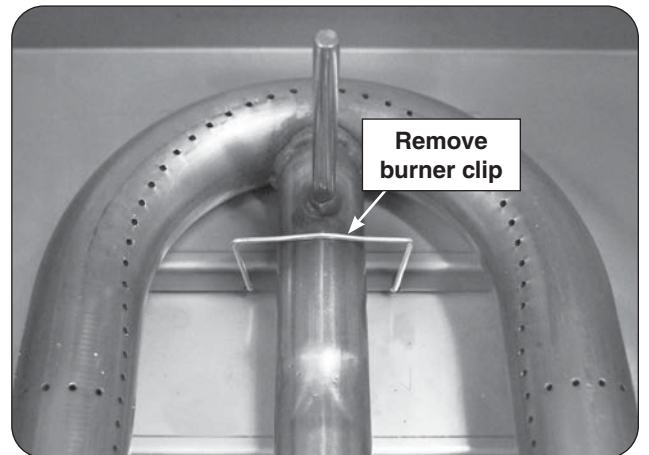

Fig. 31-2 Main burner removal
2. Locate the burner clip (located over the rear center tube of the burner) and slightly pinch and remove the clip from the burner support. See Fig. 31-2.